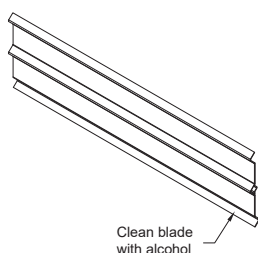

Figure 1
- 1) Clean blade surface where blade seal will be applied with alcohol. (Figure 1)